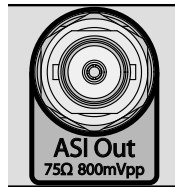
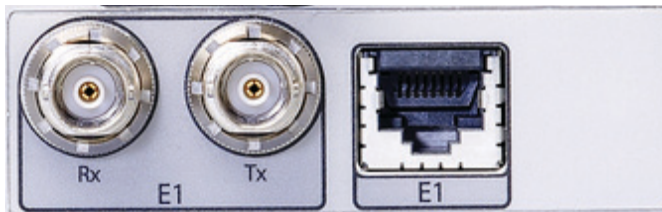

Figure 2-16. DVB ASI Out BNC Connector for BER Measurements (Option 57 and Option 79)
Figure 2-17. E1 Tx/Tx Connectors (Option 52, 51 or 53)
10.	Option 759 ^a or Option 751 ^b : SFP Optical Module Connector Options 57 ^c and 79 ^c : DVB ASI Out Connector (see Figure 2-16) Option 52 ^b : Rx, Tx, E1 Connectors Option 51 ^b or Option 53 ^b : RJ45 is replaced with Bantam Connectors (see Figure 2-17)